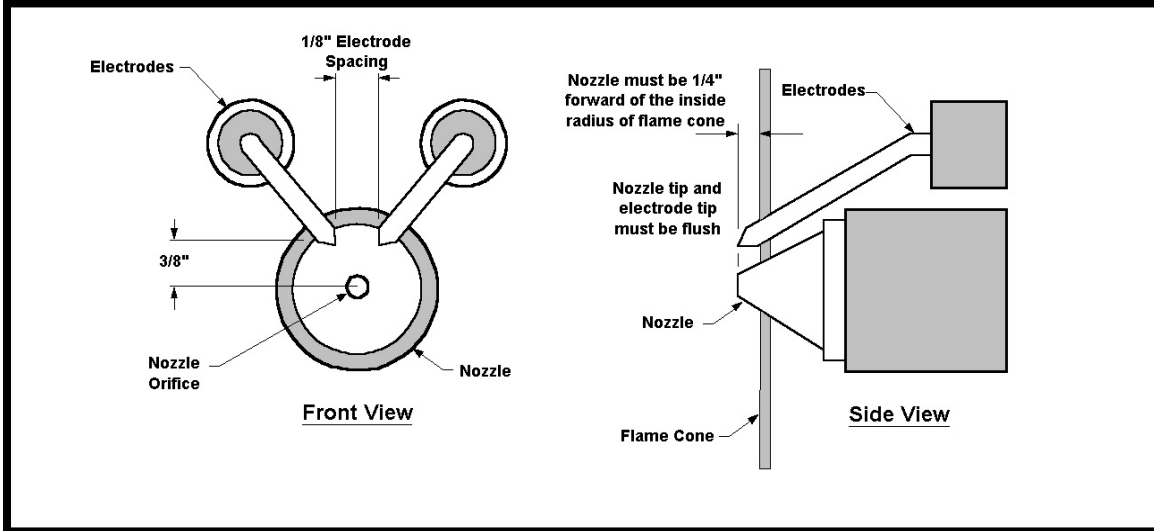

Figure 6 –Electrode Adjustment Diagram
3. **Yearly** Inspect and adjust electrodes per (figure 6). **CAUTION: turn off main electrical power before checking or adjusting electrode settings.** Inspect and check alignment
of nozzle in relation to flame cone/burner tube (figure 6). Tip of nozzle must be  $\frac{1}{4}$ " forward of inside radius of flame cone. If nozzle is behind inside radius of flame cone, coking will occur and flame cone can clog. To adjust, loosen Pre-Heater block securing nut and set screw, push fore or aft as needed then retighten securing nut and set screw.